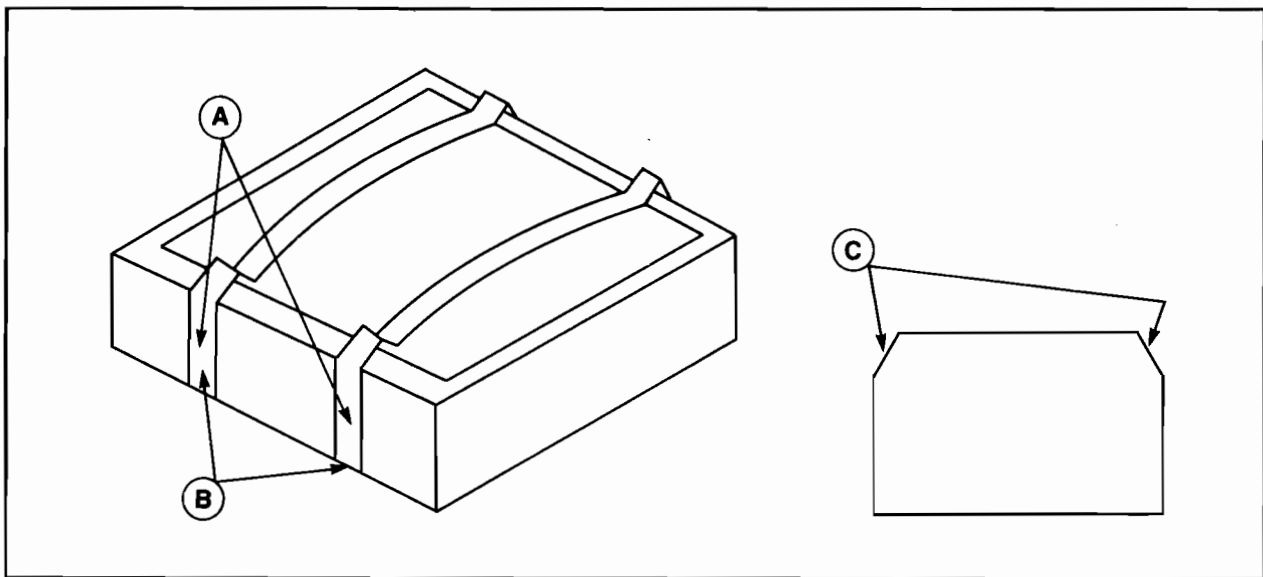

Figure 4-1. IOP Socket with IOP and Retaining Clips in Place
2. While pressing down on one of the IOP retaining clips (see figure 4-1) with your thumb, insert the flat blade of a screwdriver or similar instrument between the retaining clip and the side of the socket.
3. Twist the bottom portion of the blade away from the socket to free the retaining clip (A) from the bottom edge of the socket.
4. When the retaining clip (A) is free, lift it up and over the IOP.
3. Remove both retaining clips from the socket, if they are in place (see figure 4-1).
4. Place the IOP in the socket, locating the two flat corners (C) of the socket facing the two flat corners of the IOP. The trace side of the IOP package must be on the bottom when the IOP is placed in the socket.
6. Press down with your thumb on the retaining clip (A) and press the retaining clip over the edge of the socket until it snaps under the bottom edge of the socket (B).